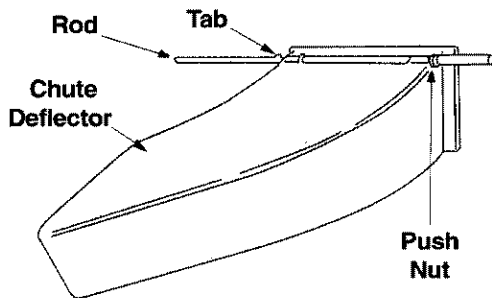

Figure 14
- Slide the rod into the upper edge of the chute deflector so the tab on the rod is toward the left side of the chute deflector. When assembled correctly, the rod will extend further to the left side than the right side. See Figure 14.